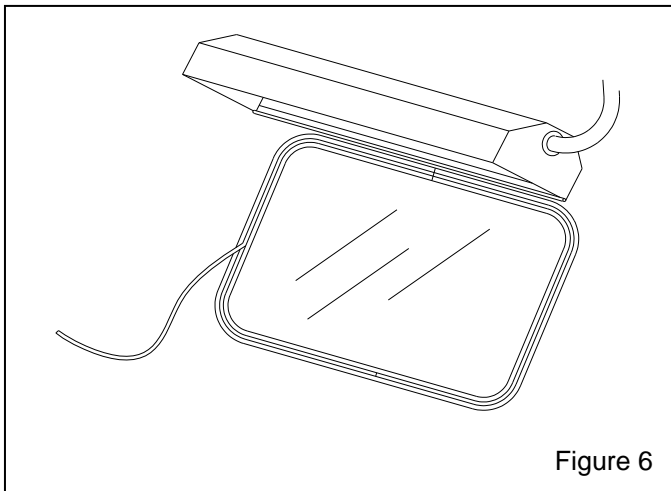

Figure 6
6.1.1 Swing the light-shield up (as shown in Figure 6) and tie it in place.
6.1.2 Remove the filler-strip by pulling it out of the window molding, as shown in Figure 6.